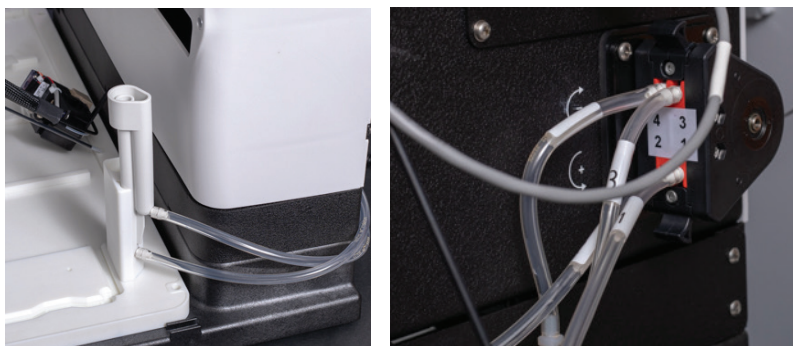

Figure 2-20 AutoSampler Module peristaltic pump with tubing correctly attached
9. Find the tube labeled “Wash Supply” connected to port “1” of the peristaltic pump on the back of the AutoSampler Module. The free end of the tubing (which has a metal weight) can be placed in the wash solution container or tee'd into a solvent supply line (Figure 2-20).